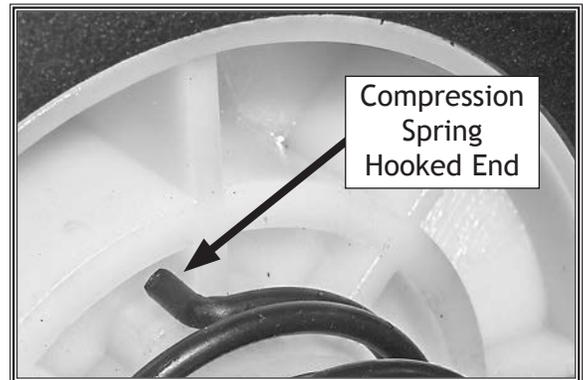

Figure 27. Hooked end of compression spring locked into driver gear shoulder.
- 23. Install compression spring (#49), ensuring hooked end is locked into driver gear (#54) shoulder, as shown in **Figure 27**.